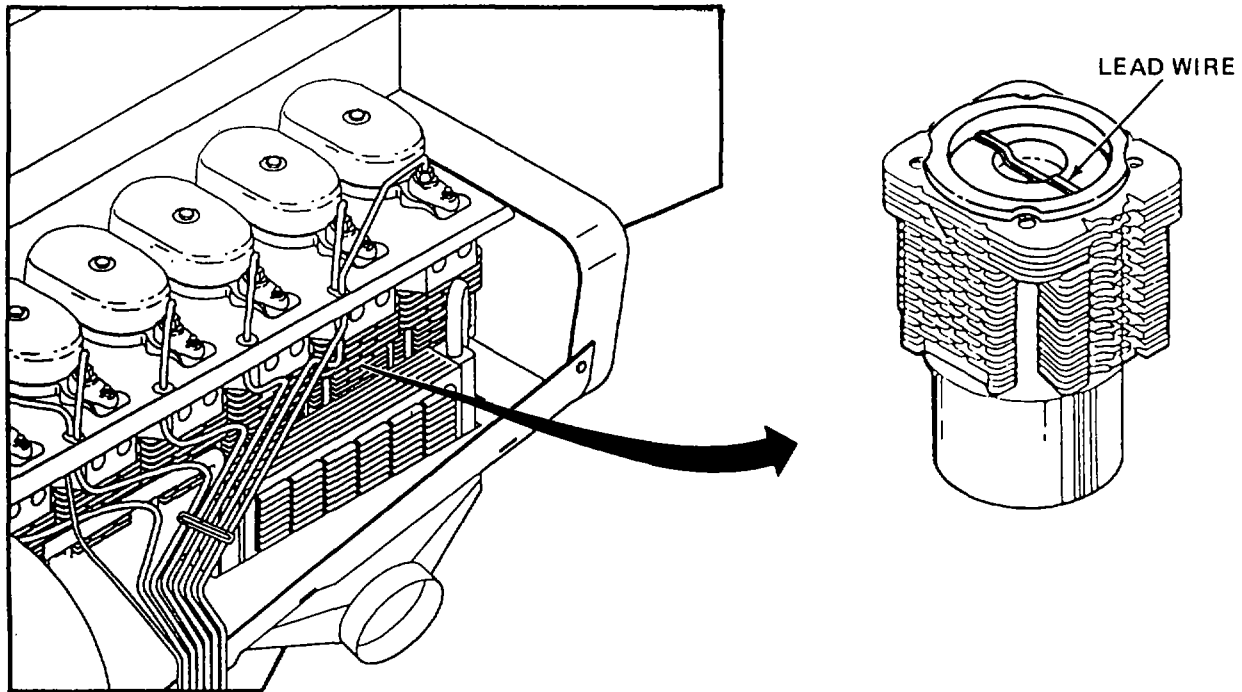

Figure 3-30. Checking Piston Clearance
- (1) Install new head gasket (10) with sharp edge up.
- (2) Install cylinder head (11).
- (3) Check and adjust piston clearance (Figure 3-30):